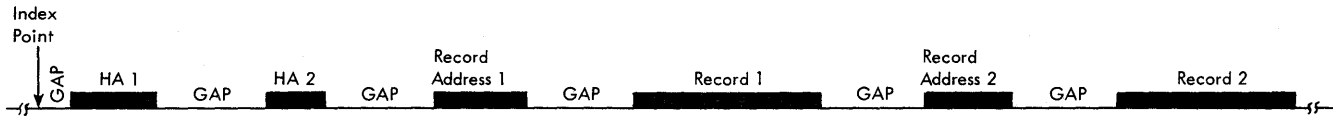

Figure 7. Disk Track Address and Data Arrangement
A data track and the data to be written or read from a track are identified by a home address 1 (HA1), a home address 2 (HA2), and as many record addresses (RA) as there are record areas to be established on the data track (Figure 7).
Each record area established for a data track is preceded by a record address (RA) (Figure 7). The record address consists of six or more characters, which may be numeric, alphabetic, or special characters. They are assigned and written by the user to fit any convenient addressing scheme. A record address need not have any relationship to the home address of the track where it is written. When the record address (six characters) is verified, only the numeric portion (four low order bits) of the first four characters is verified. The low-order six bits of the last two characters are
*Note:* The index point (Figure 7) is used as a machine reference point on the track; that is, it indicates both the beginning and the end of the track. The index is used by the 7631 in file-control/disk-storage synchronizing functions. The index is not normally used in programming operations.